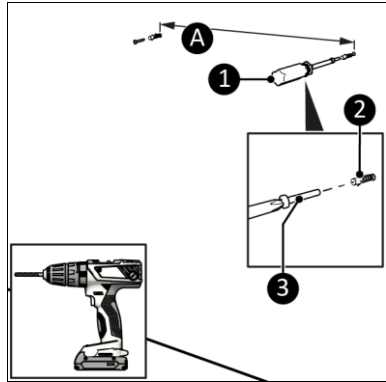

Figure 9
8. Drill two holes with approximately 160 mm between the holes (Figure 9, pos. A). And with a minimal distance from the floor of:
9. Place wall plugs (Figure 9, pos. 2).
10. Screw two large screws (Figure 9, pos. 3) to the wall using a Phillips screwdriver (Figure 9, pos. 1). Let the screws stick out a few millimeters from the wall.